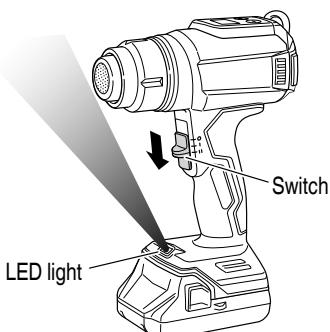

Fig. 11
- 3. How to use the LED light (Fig. 11)